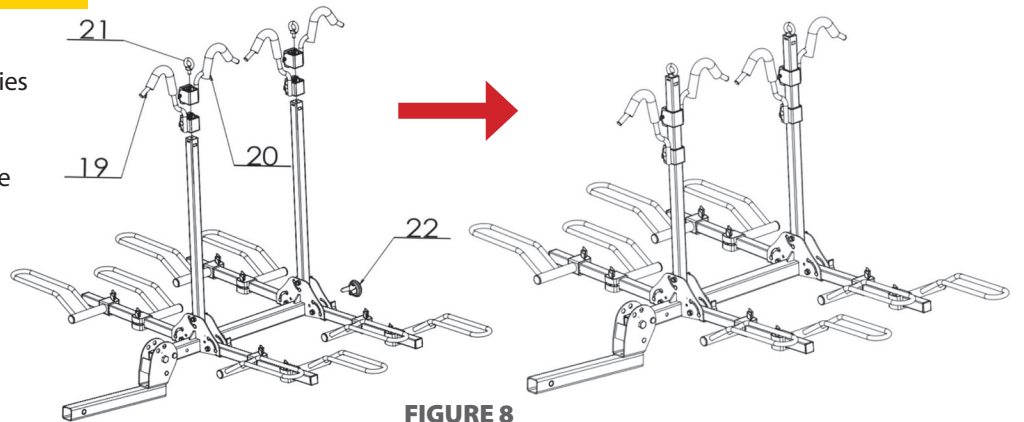

FIGURE 8
Install the (2) Long J-Hook Assemblies (part #19) and (2) Short J-Hook Assemblies (part #20) onto the Vertical Arm, then tighten the (2) Eyebolts (part #21). Put the Reflector (part #22) in the hole of the square tube. (See **Figure 8**)